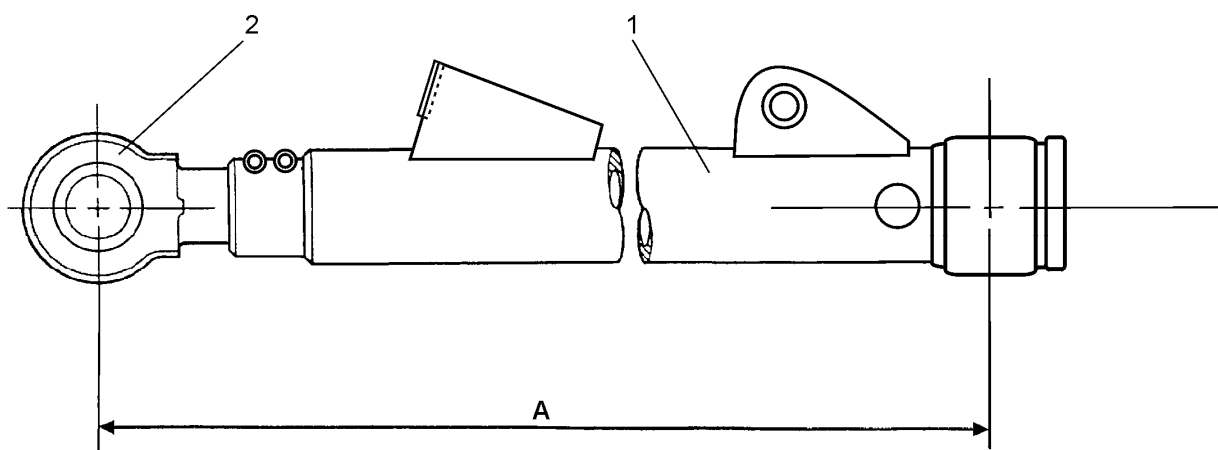

Fig. 17.9. Lower Strut Adjustment
1. Disconnect tilt cylinder (2) from strut (3) by removing the lock pin and drive out pin. Tie tilt cylinder (2) up out of the way.
2. Disconnect the strut (3) from swivel bar by removing the pin locking hardware and drive out pin.
4. Remove the eye bolt (2, Fig. 17.9) from strut (1)
1. Install the eye bolt (2, Fig. 17.9) and strut (1).
2. Adjust the lower strut to nominal mounting length 1552 [mm] (Fig. 17.9).
3. Position strut (3) so that eye bolt is in swivel bar. Install pin, aligning the lock holes and secure with the locking hardware. Position C frame trunnion in the bracket on top of the C frame. Secure the trunnion with the pin.
4. Position tilt cylinder (2) so that eye bolt is in the bracket on the lower strut. Install pin, aligning the lock holes and secure with the pin lock pin.